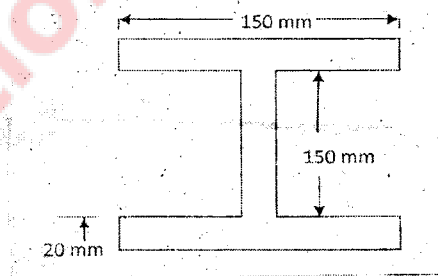

FIGURE 4
- (b) Find Moment of Inertia about centroid axes  $I_{xx}$  and  $I_{yy}$  of a I- Section given in Figure 4. ૦૪